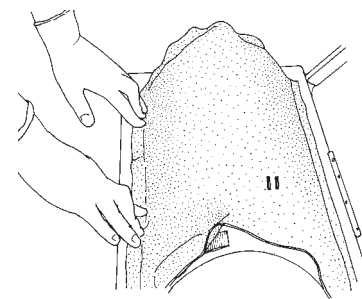

fig 16
1. Replace the skin by attaching the Velcro on the far side of the trainer. Ensure that the slit in the skin aligns with the groove on the end of the base **fig 16.**
2. Fix the Velcro along the nearside edge **fig 16.**